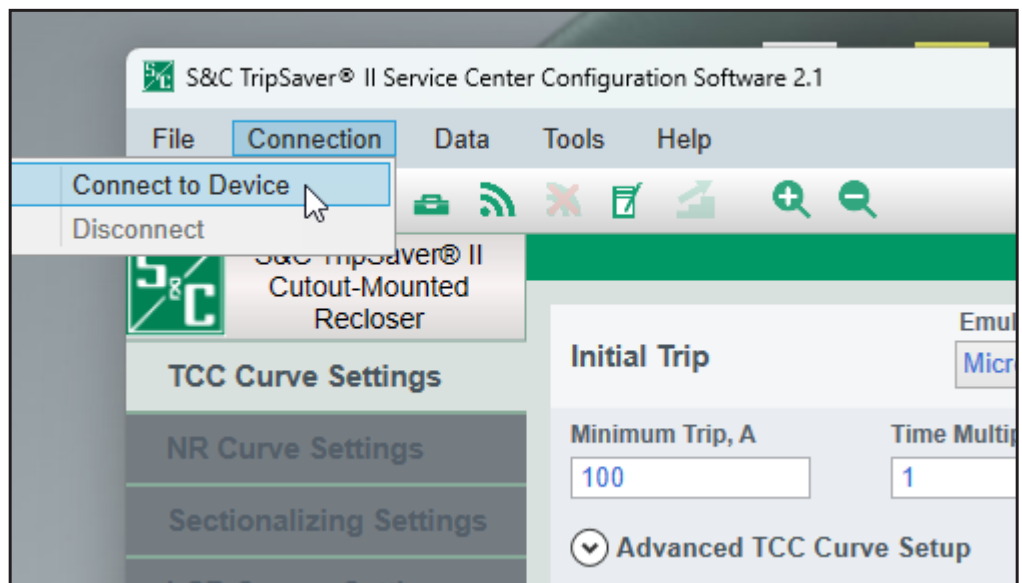

Figure 4. The Connect to Device menu item.
STEP 3. In the service center configuration software, select “Connection>Connect to Device” from the **Main** menu or click on the **Connect to Device** icon in the quick access toolbar. See Figure 4.